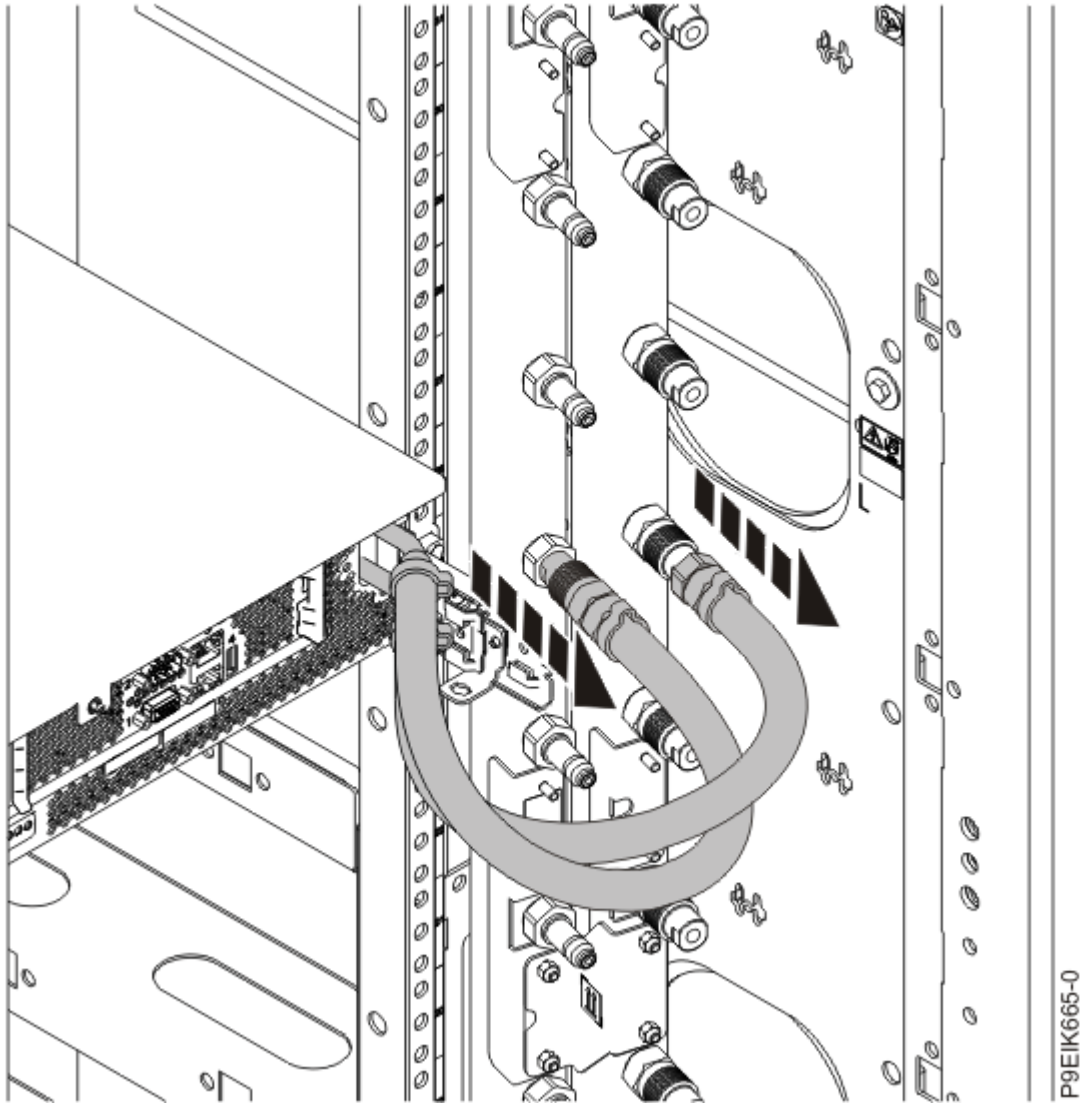

Figure 162. Disconnecting the water hoses
8. Label and disconnect the water hoses at the manifold for each server in the rack. Pull the coupling toward you to disconnect the water hoses as shown in Figure 162 on page 179.